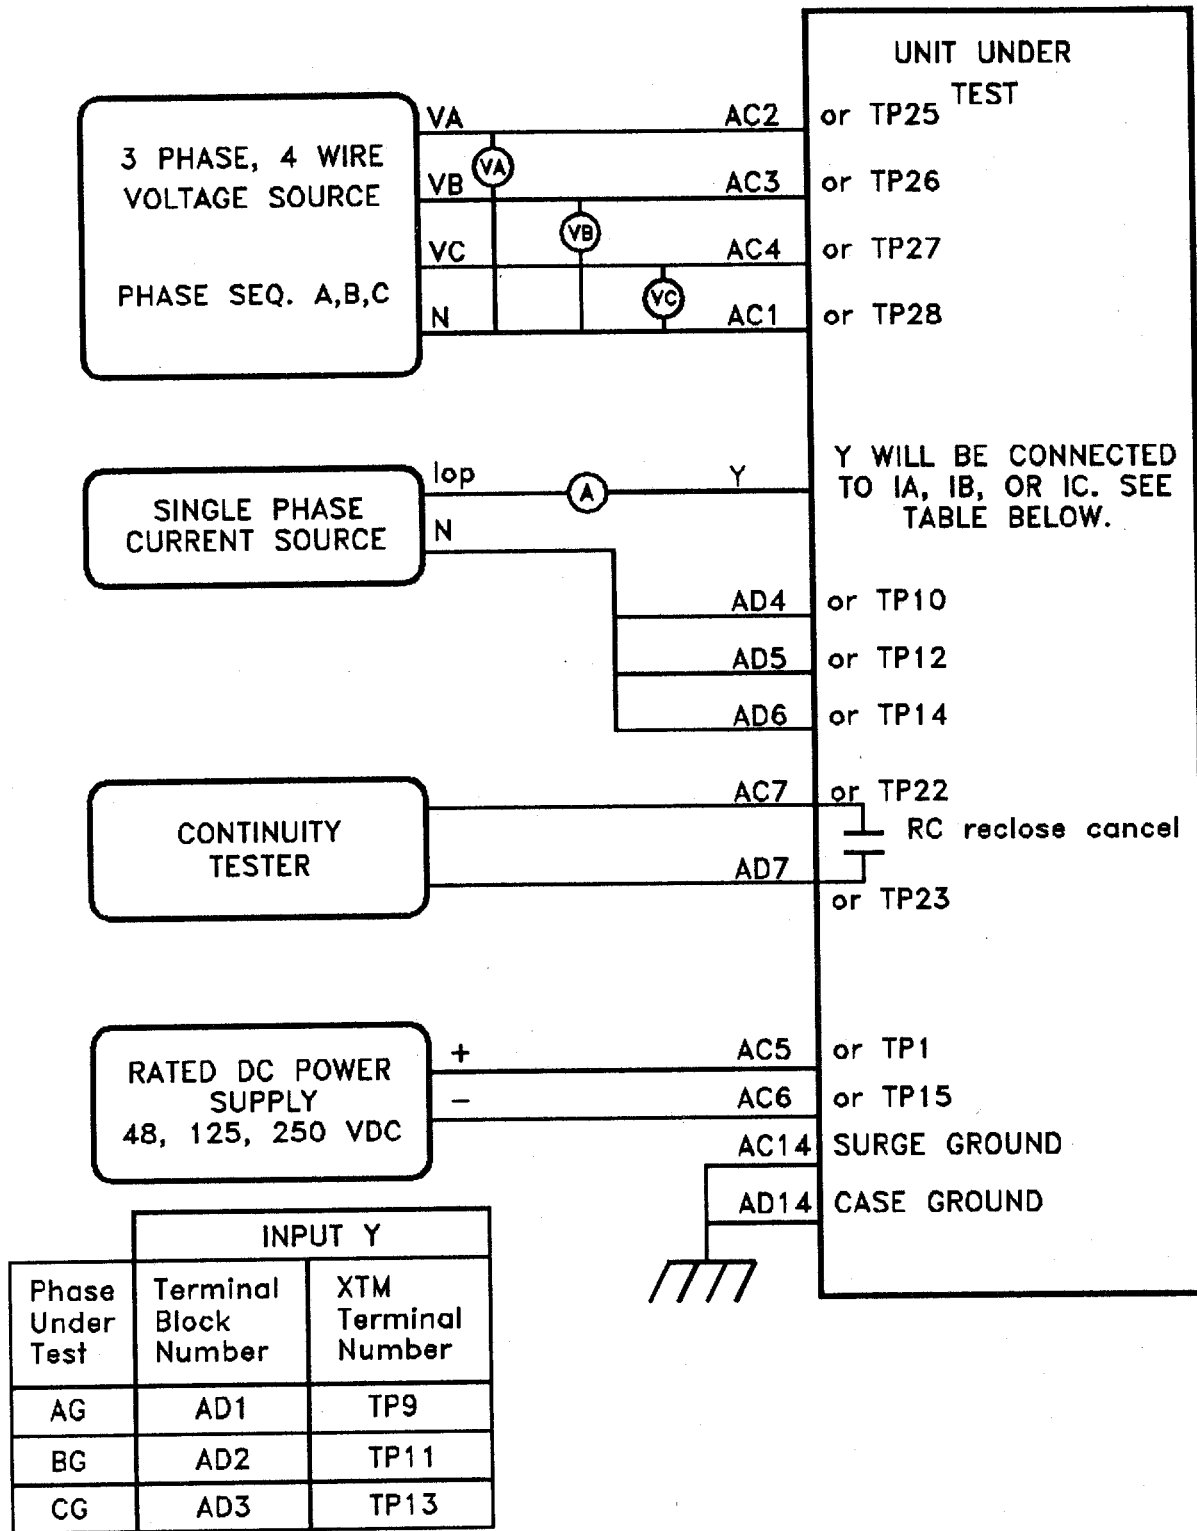

Figure AT-1 (0286A4824 Sh.3 [1]) Phase-to-Ground Test Connections
1. Connect the relay as shown in Figure AT-1. Apply rated DC power and wait for initialization to complete, as indicated by the green LED.
1. Connect the relay as shown in Figure AT-1.
7. Reduce the test current to zero (0) amps.